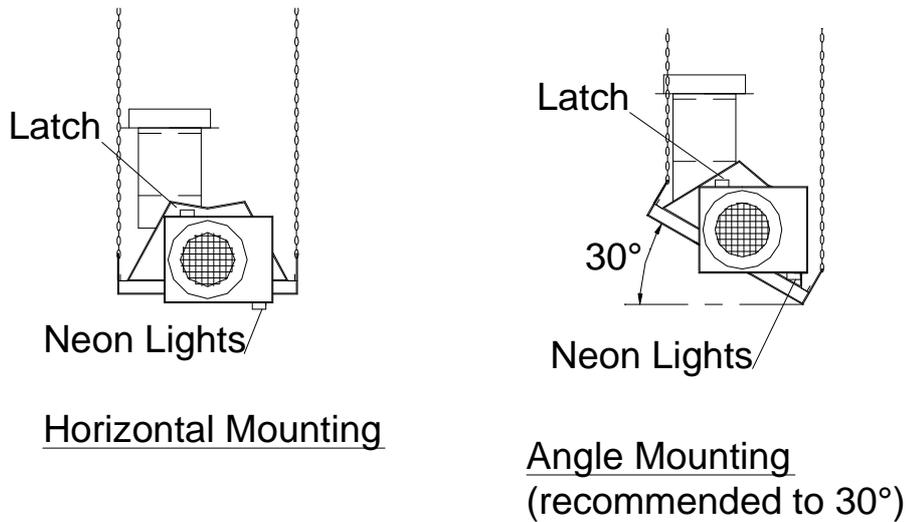

Fig. 5
- 4.1.3 Place a Torctite Coupling over one end of the Radiant Tube ensuring that it engages fully up to the stop. Assemble a Control Box to the Radiant Tube ensuring that it engages fully into the Torctite Coupling (up to the stop) and is positioned vertically with the door latch uppermost (see Fig. 5). Tighten the screws of the Torctite Coupling to secure the Control Box to the Radiant Tube, taking care to support the Control Box in line with the axis of the tube.